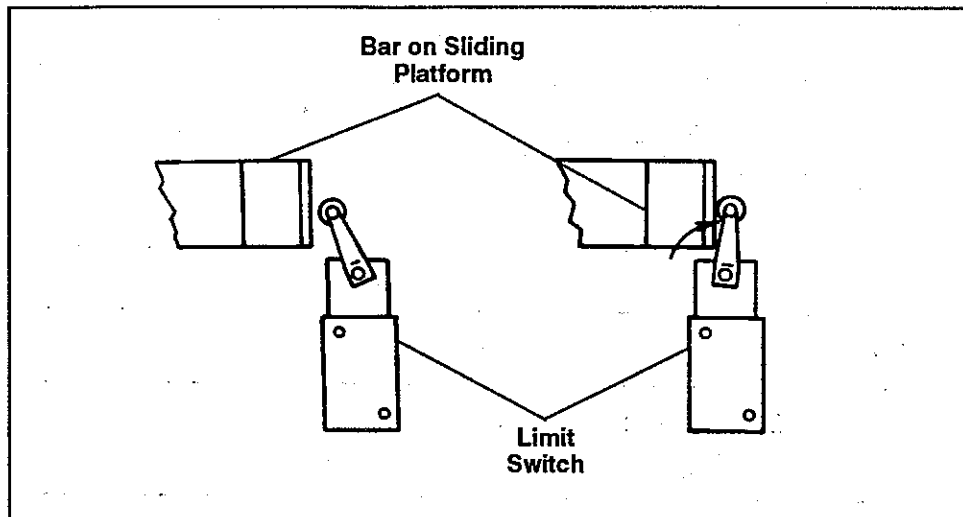

Fig. 10. Platform Limit Switch
**Platform Limit Switch**, located under platform and activated by bar on sliding platform. See Figure 10. Function: When shifted, detects that sliding platform is fully retracted (during store cycle) stopping horizontal movement and starting vertical movement for barrier clearance.